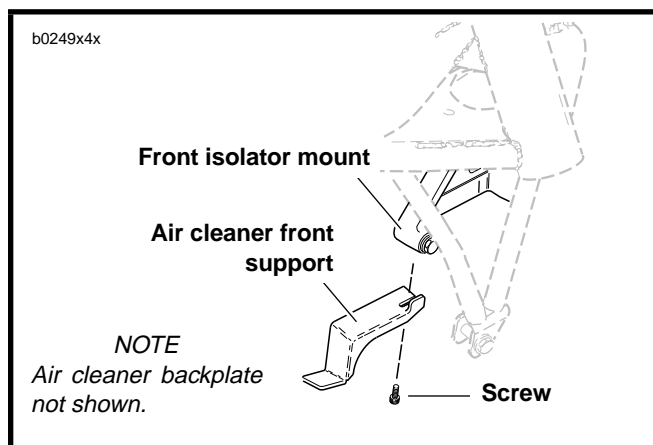

Figure 4-19. Air Cleaner Front Support
7. See Figure 4-19. Remove screw under air cleaner support.
3. See Figure 4-19. Apply LOCTITE THREADLOCKER 242 (blue) to air cleaner front support screw. Install support/backplate and tighten screw to 3-5 ft-lbs (4.1-6.8 Nm).